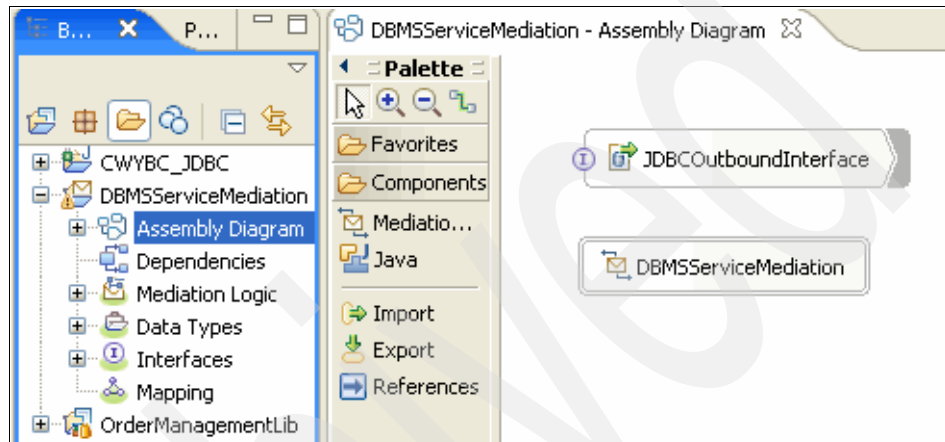

Figure 5-31 DBMSServiceMediation assembly diagram
2. Open the assembly diagram for the DBMSServiceMediation project, shown in Figure 5-31.